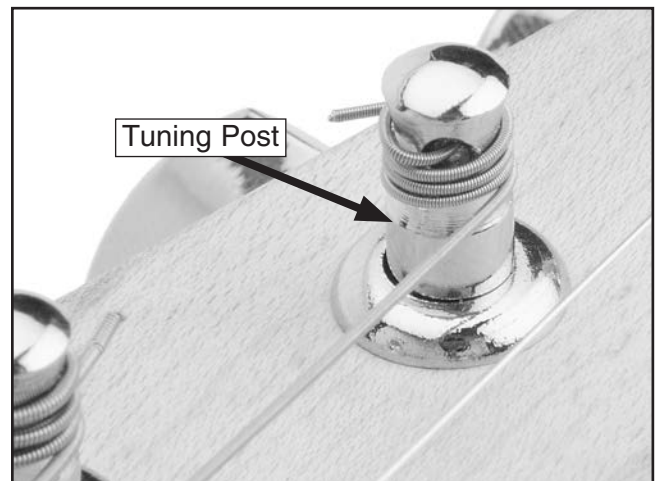

Figure 30. Example of string wrapped around tuning post.
6. Rotate the tuners until the string just begins to hold the winding tension (**Figure 30**).